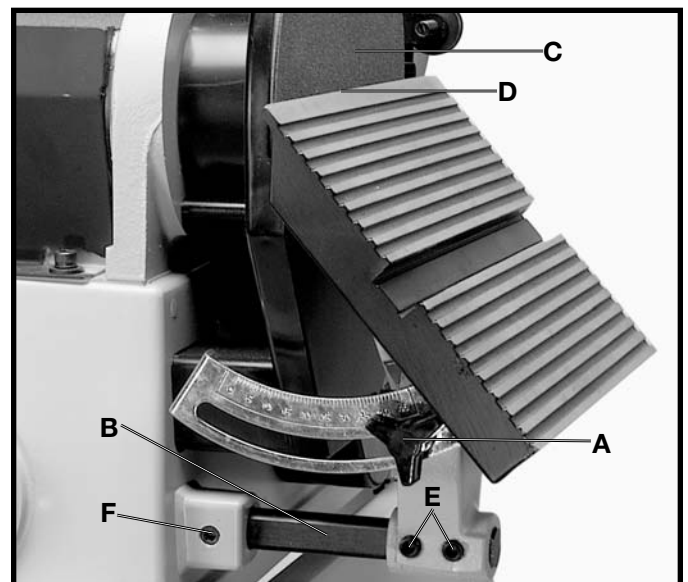

Fig. 27
2. The table can be tilted up to 45 degrees to the right by loosening the table lock knob (A) Fig. 27, tilting the table to the desired angle, and tightening table lock knob (A).
3. **⚠ WARNING: AFTER TILTING, THE TABLE ASSEMBLY MUST BE REPOSITIONED ON THE SUPPORT ROD (B) FIG. 27, TO PROVIDE A MAXIMUM OF 1/16 INCH DISTANCE BETWEEN THE SANDING DISC (C), AND THE EDGE (D) OF THE TABLE, TO AVOID TRAPPING THE WORK OR FINGERS BETWEEN THE DISC AND TABLE. TO REPOSITION THE TABLE ASSEMBLY, LOOSEN TWO SCREWS (E) AND/OR SCREW (F), MOVE TABLE ASSEMBLY ON ROD (B), AND TIGHTEN SCREWS (E) AND/OR (F).**